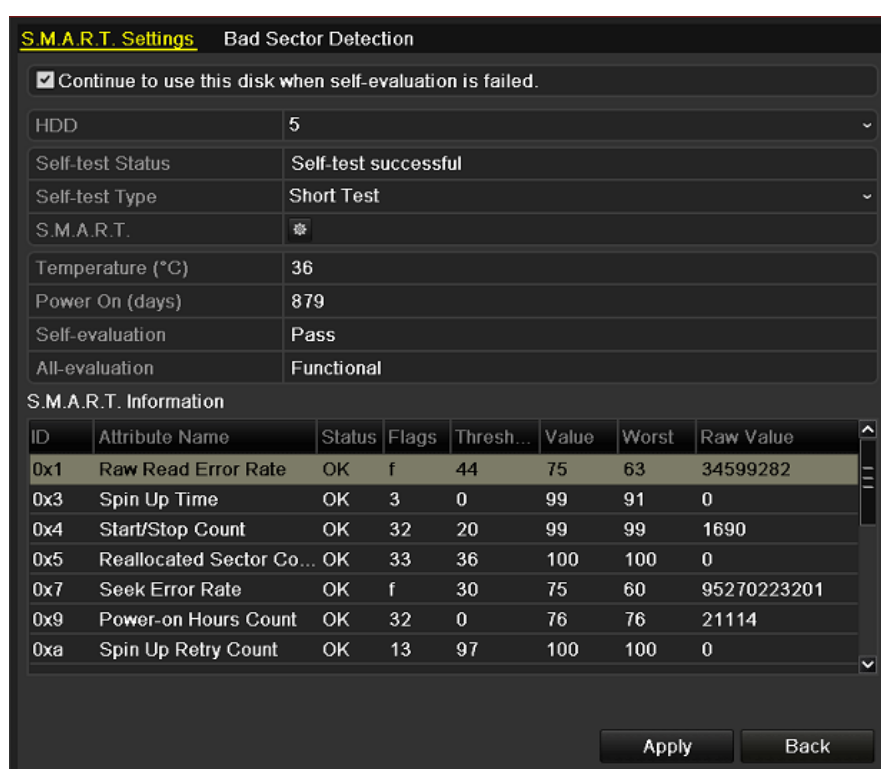

Figure 10. 19 S.M.A.R.T. Settings Interface
2. Select the HDD to view its S.M.A.R.T. information list, as shown in Figure 10. 19.